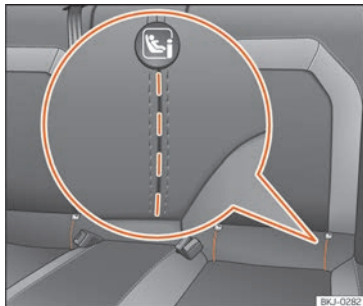

Fig. 37 Rear seat: slots die cut to access the ISOFIX / iSize securing rings.
The location of the ISOFIX or i-Size anchor points is indicated by a symbol »» **Fig. 37**. In some vehicles, the rings are secured to the seat frame and, in others, they are secured to the rear floor.
- First open the cut-out section behind the marked grooves to access the retaining rings »» **Fig. 37**.